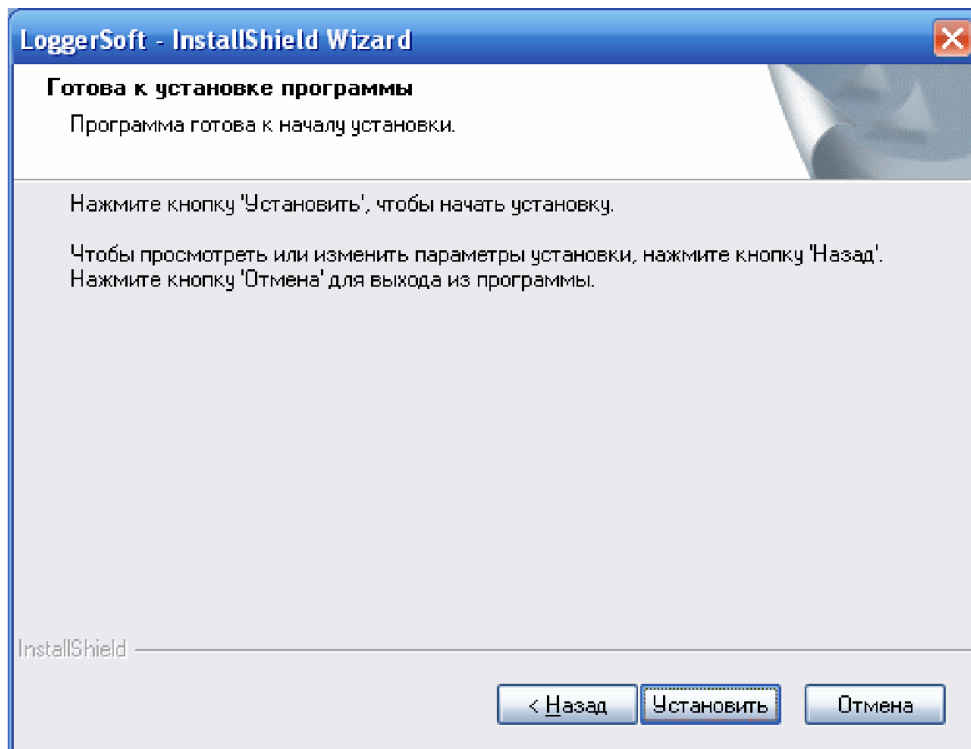

Figure 21. Installing LoggerSoft - step 3.
Step 3 (Figure 21) - overview of selected installation options. If a mistake was made somewhere, go back to the previous step using the “Back” button and correct it. Click the “Install” button to start the installation process.